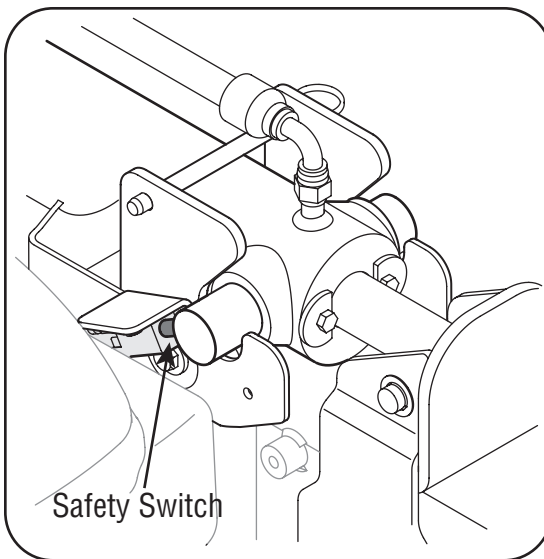

Figure 4-3
The safety switch is intended to prevent the operator from starting the engine without the cylinder being in the operating "lock" position. See Figure 4-3 for the location of the safety switch.
2. Use handle to slide cylinder rearward into the operating "Lock" position, engaging the safety switch, and reinsert locking pin. See Figure 4-3.